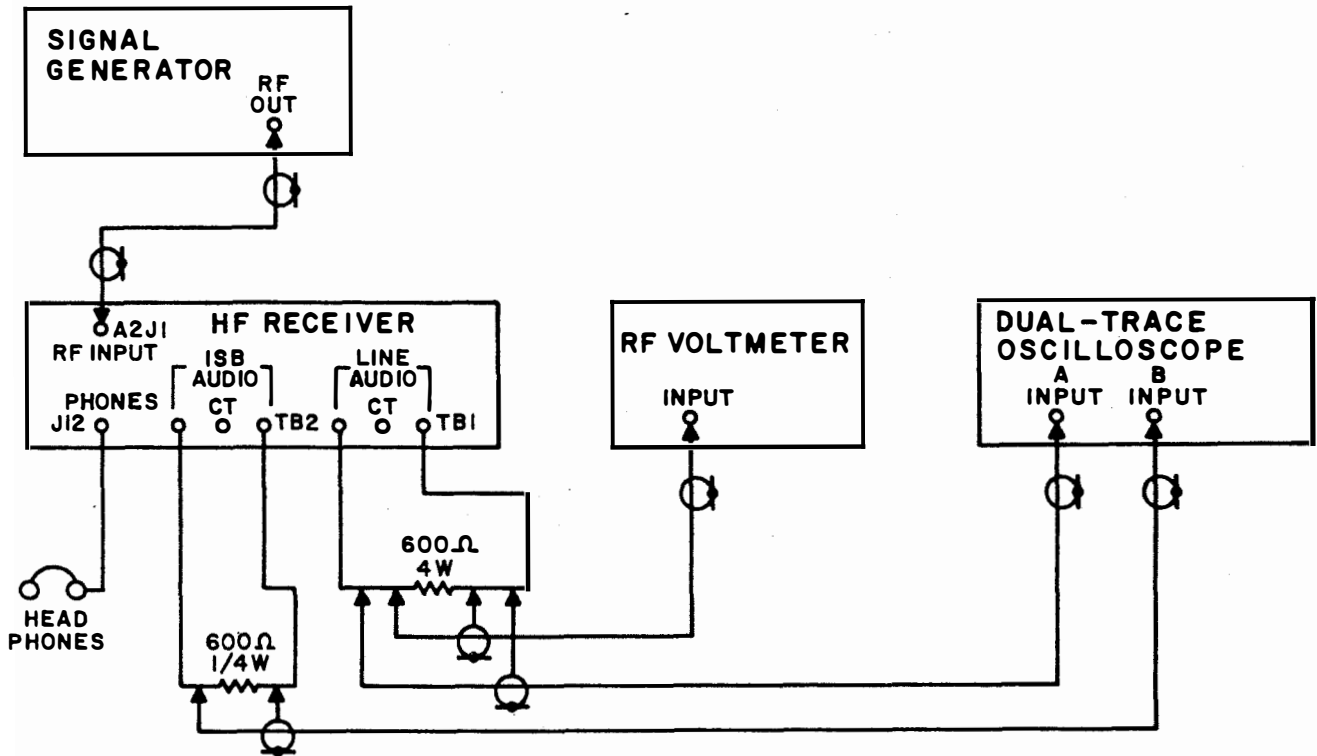

Figure 4-2. Detection Mode Performance, Test Setup
(1) Test equipment required. This test will utilize a signal generator, voltmeter, a dual-trace oscilloscope, headphones, and two 600  $\Omega$  resistors. Specifics are set forth in table 6-1.
(2) Technician rating required. An Electronic Technician Second Class or above should perform this test.
(3) Set up data. The test equipment should be connected to the receiver as shown in figure 4-2.